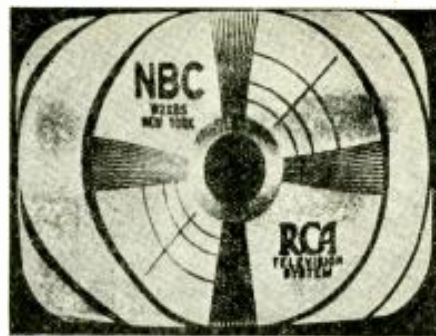

Fig. 9—Horizontal linearity circuit defect.
1. Lines in image are bent or elongated. (See Fig. 9.) This indicates a defect in the horizontal linearity circuit. Adjust the horizontal linearity control L201 according to the manufacturer's recommendations. If this fails, change the horizontal output tube V126 and the reaction scanning or damping tube V128. Check the saw-tooth generating network. (C179, R210 and R187). Finally, check all resistors and condensers directly associated with the horizontal linearity control.